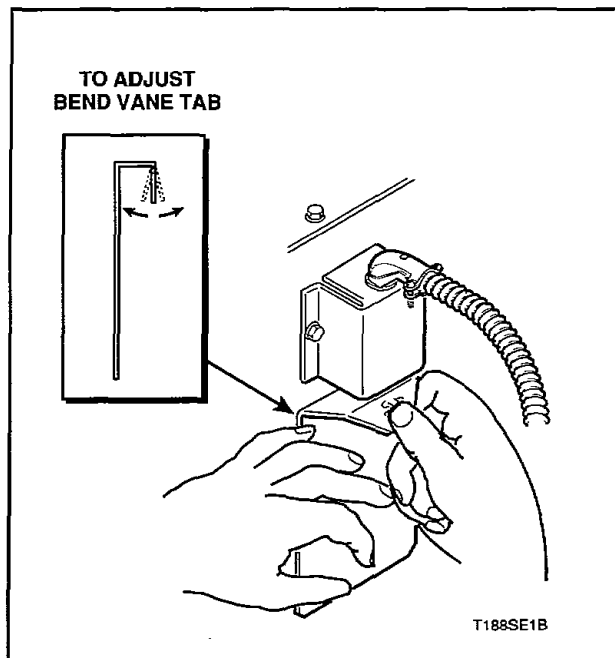

Figure 28
36. AIRFLOW SWITCH (Figure 28)
- c. If switch is not opening as described in step "b", it should be adjusted so it is MORE sensitive. Grasp the vane and spread the vane and switch connection apart, *Figure 28*. Retest by opening loading door and continue spreading the vane until switch operates as described in step "b".